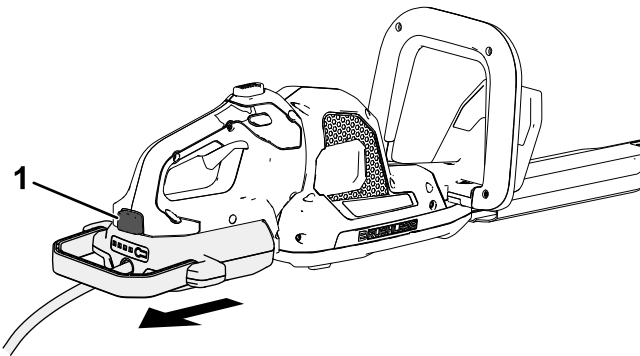

Figure 6
- Press the latch button on the tool and remove the battery connector from the tool (Figure 6).